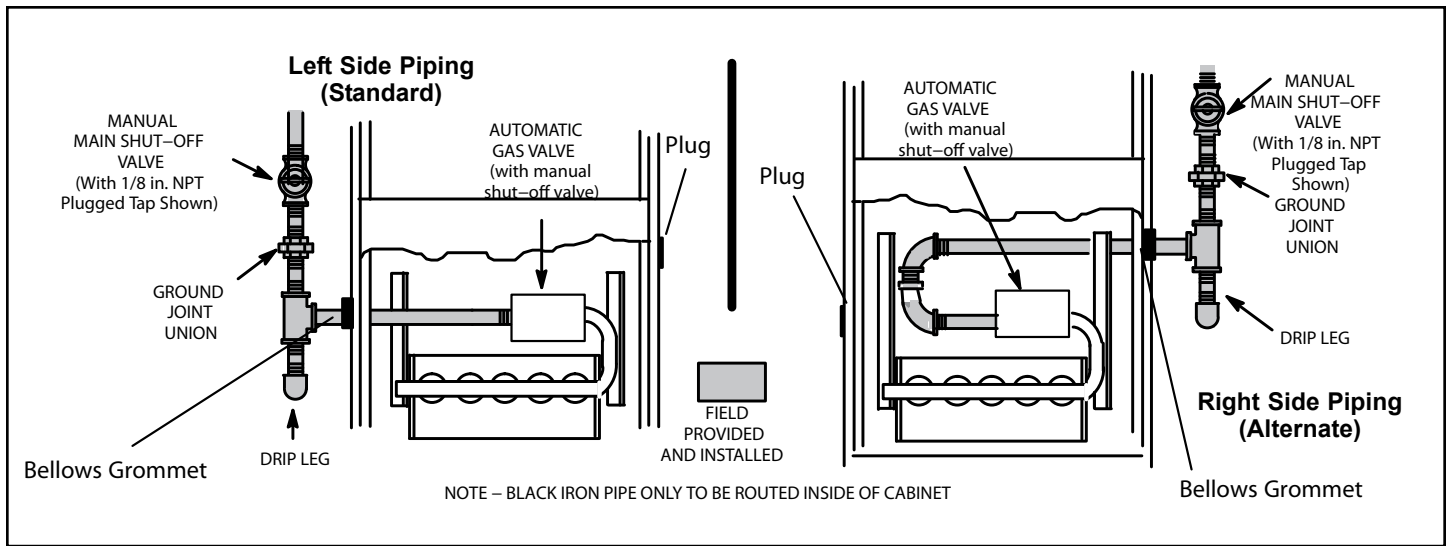

Figure 48.
1. Gas piping may be routed into the unit through either the left or right hand side. Supply piping enters into the gas valve from the side of the valve as shown in Figure 48. Move bellows grommet to side of the cabinet which the gas line enters. Ensure opposite gas line entrance is plugged with supplied plug.
3. Gas piping must not run in or through air ducts, clothes chutes, chimneys or gas vents, dumb waiters or elevator shafts. Center gas line through piping hole. Gas line should not touch side of unit. See Figure 48.